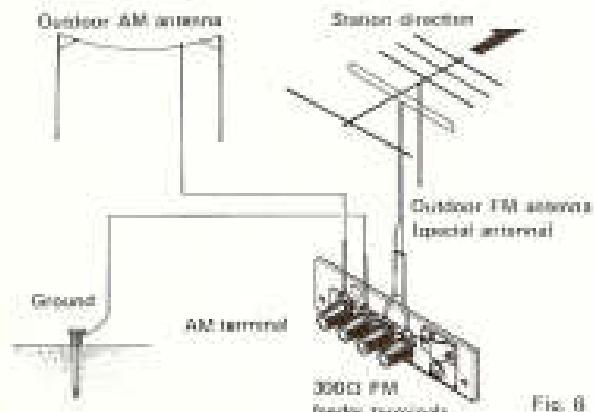

Fig. 6
- Connect antenna feeder to the 300Ω antenna terminals of the SX-5590 as shown in Fig. 6.
For optimum AM reception, an outdoor AM antenna using vinyl insulated wire can be erected as shown in Fig. 6.
For maximum safety and noise reduction, connect the GND terminal to an earth ground (Fig. 6).